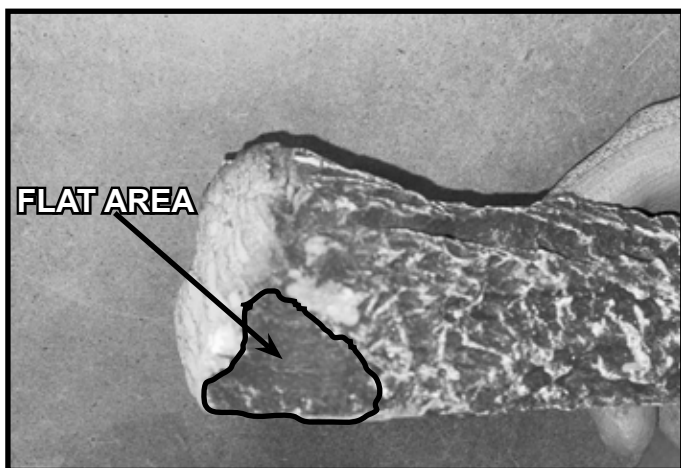
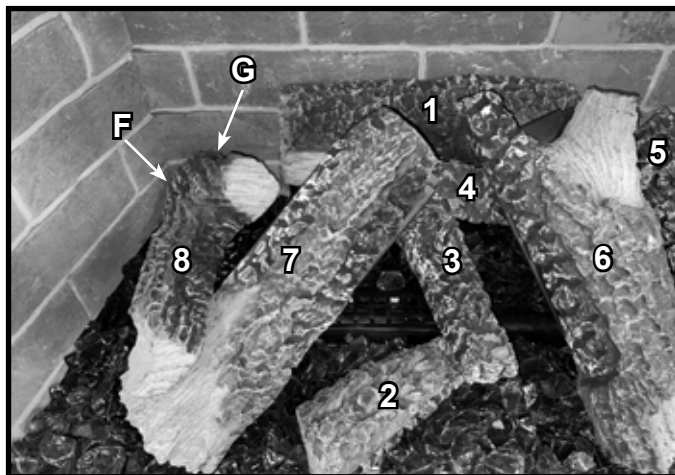

Figure 16 Log #8 Flat Area on Bottom
Figure 17 Log #8 Installed
**LOG #8:** Position Log #8 with the flat area, shown in Figure 16, seated flat on the base pan. Log #8 will contact Log Pin F and Log Pin G. The forked side of the log will be positioned so that the longer fork is seated on the notch on Log #7. See Figure 17.